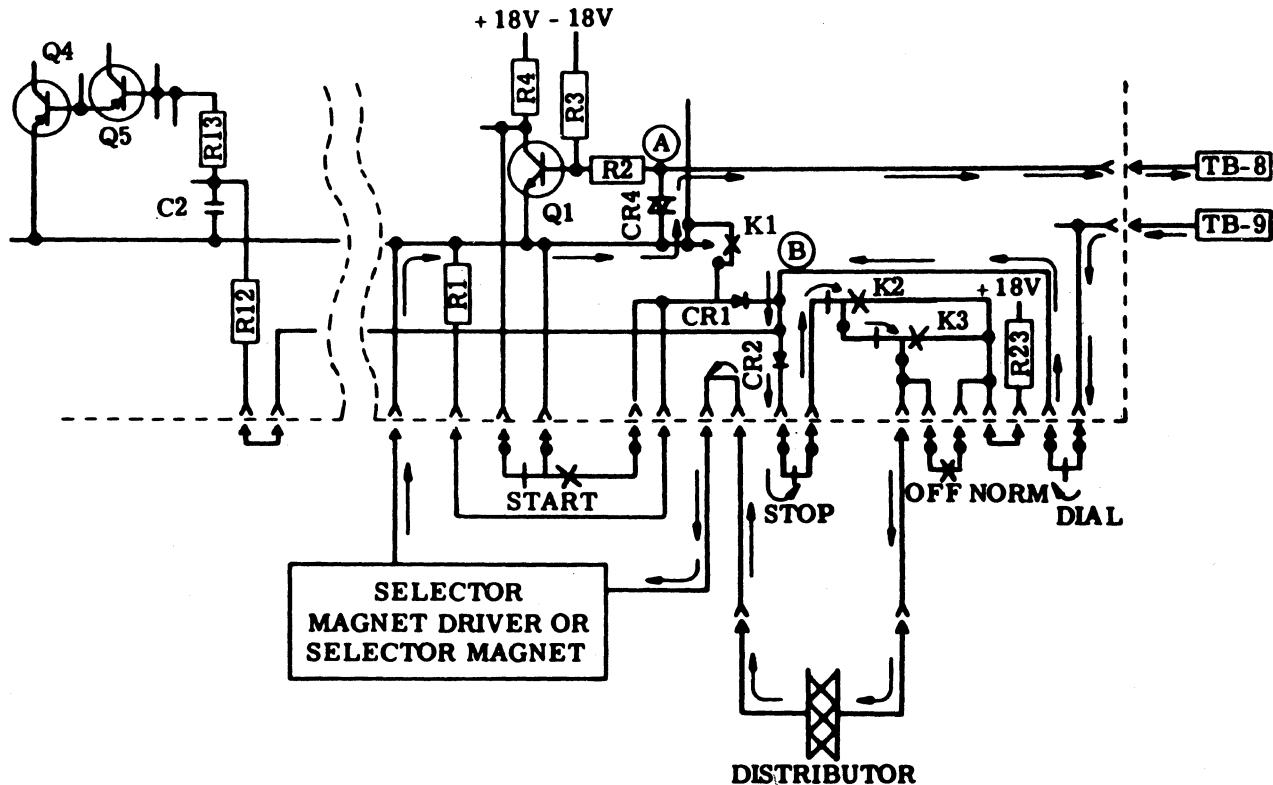

Figure 9 - Local-Remote Control Circuit – Current Flow (Local Connection)
- 3.30 The schematic diagram of the local remote control circuit (Figure 9) shows the current flow during the local connection.
3.31 Local Connection: If a call is initiated locally, current in the loop will be 0.060 ampere from TB8 to TB9 through the path described in 3.28 before connection. When the loop polarity is reversed by the exchange, current will flow from TB9 to TB8. Diode CR1 becomes reverse-biased and stops current flow except through R12 and R13. This current flow will turn off Q4 and turn on Q6. With Q6 in conduction, the connect circuit will be on, the K2 relay will operate and the CONN (connect) lamp will light. The contacts of the K2 relay will switch and allow the loop current of 0.060 ampere to flow through the distributor and selector magnet driver as shown in Figure 9. Loop current now flows from TB9, through the dial pulse contacts, CR2, K2 relay contacts 2 and 3, K3 relay contacts 1 and 2, the keyboard distributor, the selector magnet driver, and CR4 to TB8.